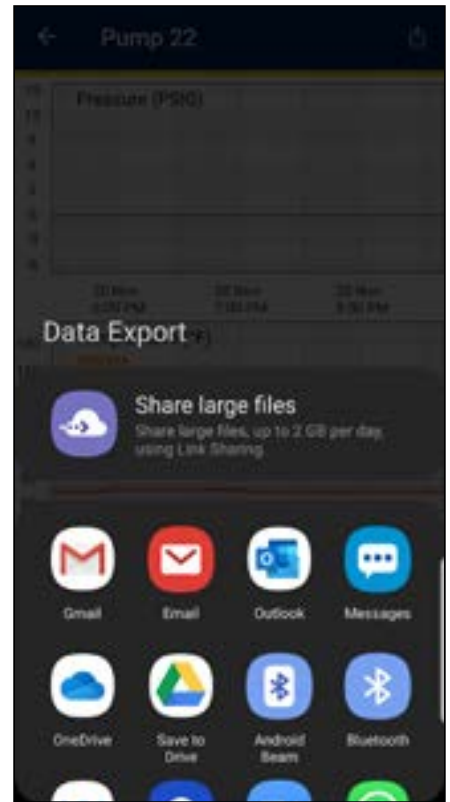

Figure 23
4. Select the preferred method to export the measured data. You will be prompted by your phone to select your preferred app to complete data export (see figure 23).